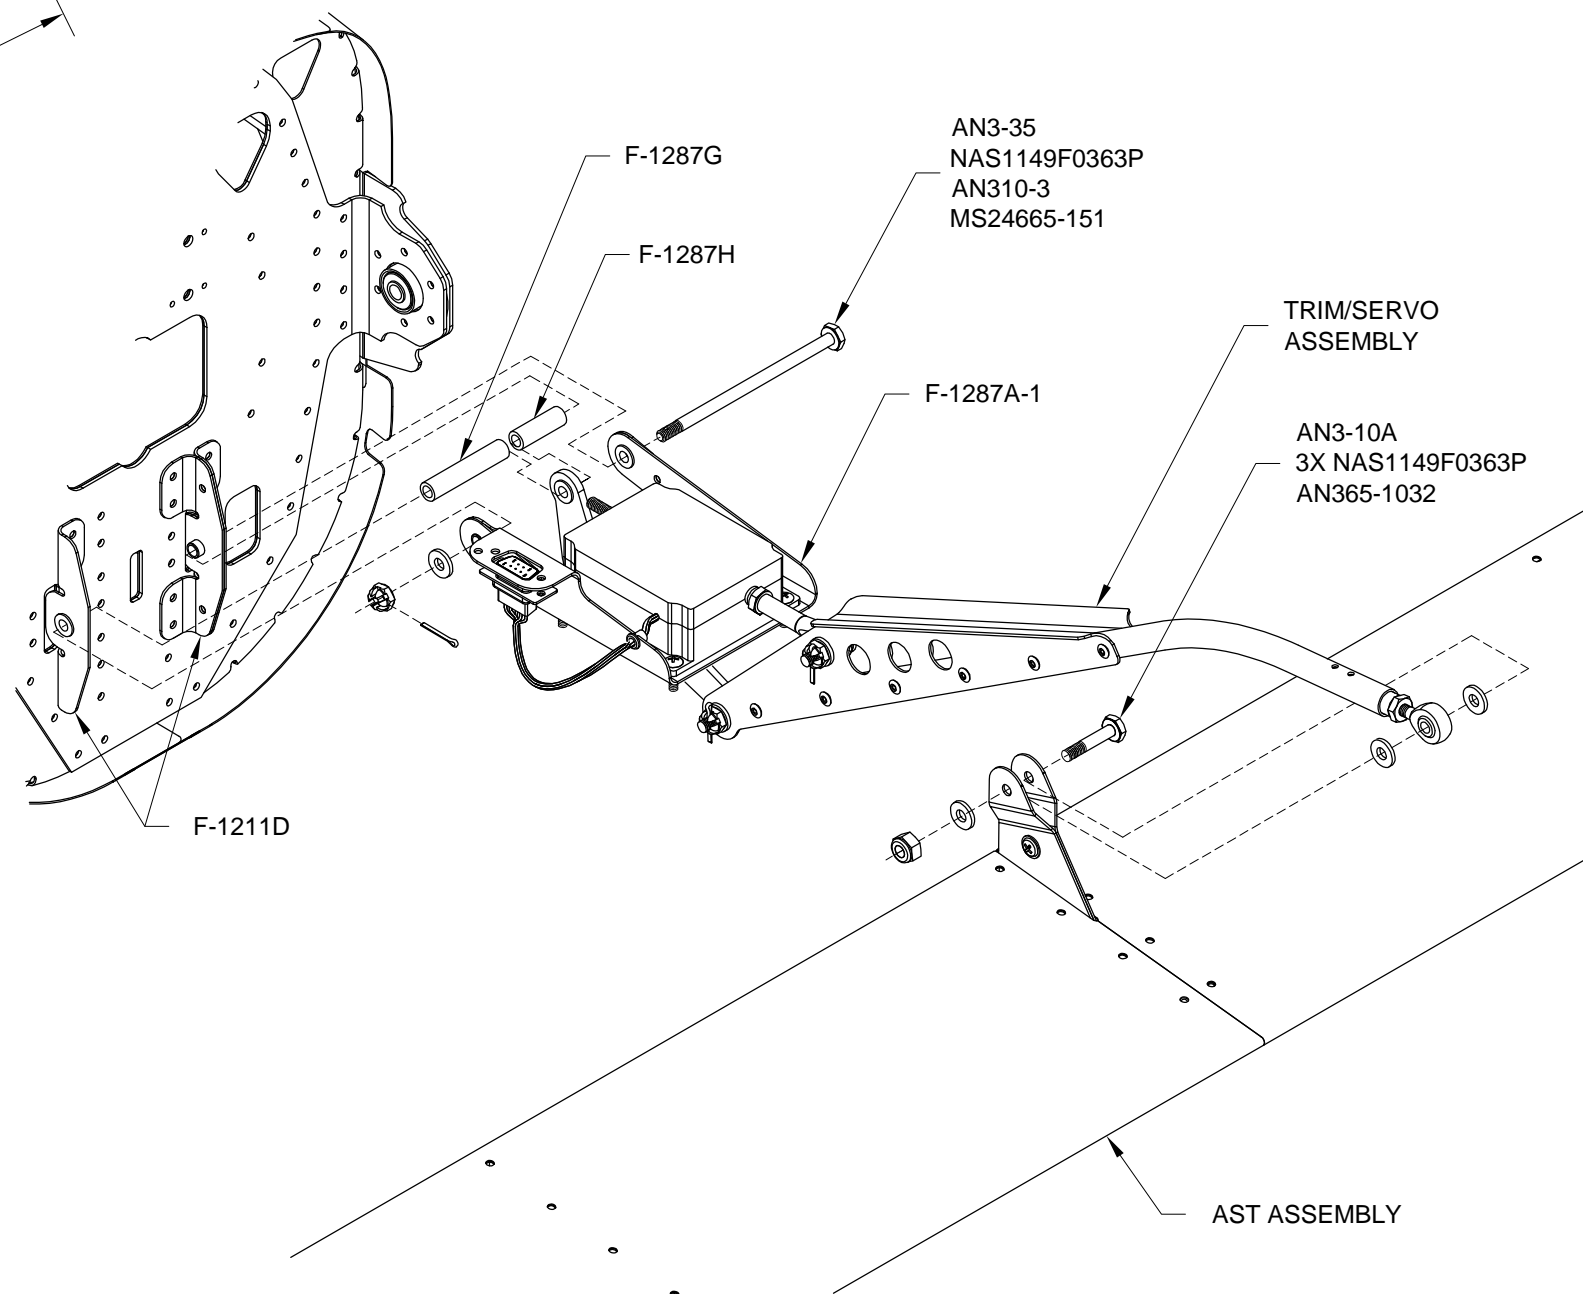

FIGURE 2: TRIM/SERVO ASSEMBLY INSTALLATION
NOTE: The Rudder, V-Stab, and Stabilator Assemblies are not shown for clarity in Figure 2.
Step 3: From below the Stabilator Assembly, guide the rod end bearing of the Trim/Servo Assembly up between the stabilator main skins to the AST Assembly control horns as shown in Figure 2.
Step 4: Install the F-1287A-1 Servo Tray to the F-1211D Attach Brackets using the hardware called out in Figure 2. Prior to Section 38iS/U Airframe Assembly, separate the legs of the cotter pin only enough to hold it in the hole until final installation. Fully install this cotter pin after the tailcone is attached to the fuselage.
Step 5: Install the rod end bearing to the AST Assemblies using the hardware called out in Figure 2.
Check the Stabilator Assembly movement to make sure it swings freely. Stabilator travel in both directions should be limited only by the stabilator hinge stops contacting the F-1211C tailcone hinge bracket. (Refer to Page 11-3, Figure 2, Detail A-A.)